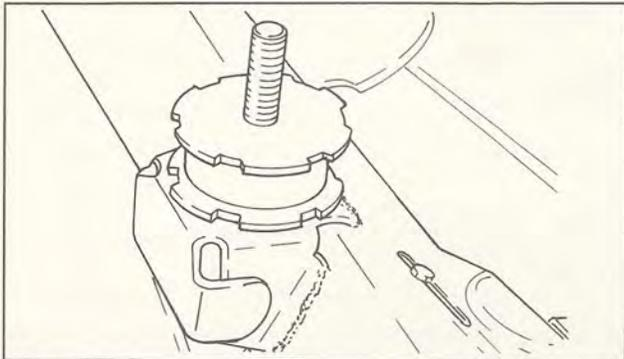

Fig. 4-9
- (1) Check the engine mount damper for separation. If the engine mount damper shows separation or cracks, replace. The movement of the V-belt gives a great strain to the engine mount damper, and therefore, it should be checked periodically. (Fig. 4-9)